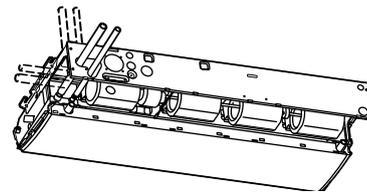

Fig. 3-51
- The positions of the refrigerant tubing connections are shown in the figure below. (The tubing can be routed in 3 directions.) (Fig. 3-51)
- * If the drain hose is routed through the left side, refer to Fig. 3-51, and follow the procedure above to install the hose. Reattach the rubber stopper removed earlier onto the right side.